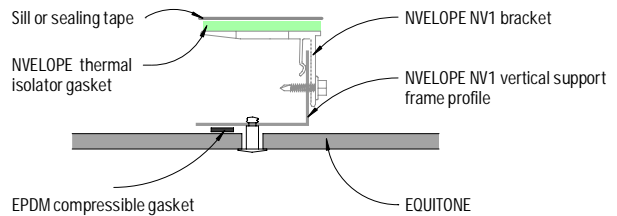

Figure 6: Intermediate panel fixings connection
- 2) EPDM compressible gasket strip is applied away from the panel hole, and usually to one side of the support frame profile as shown in Figure 6.